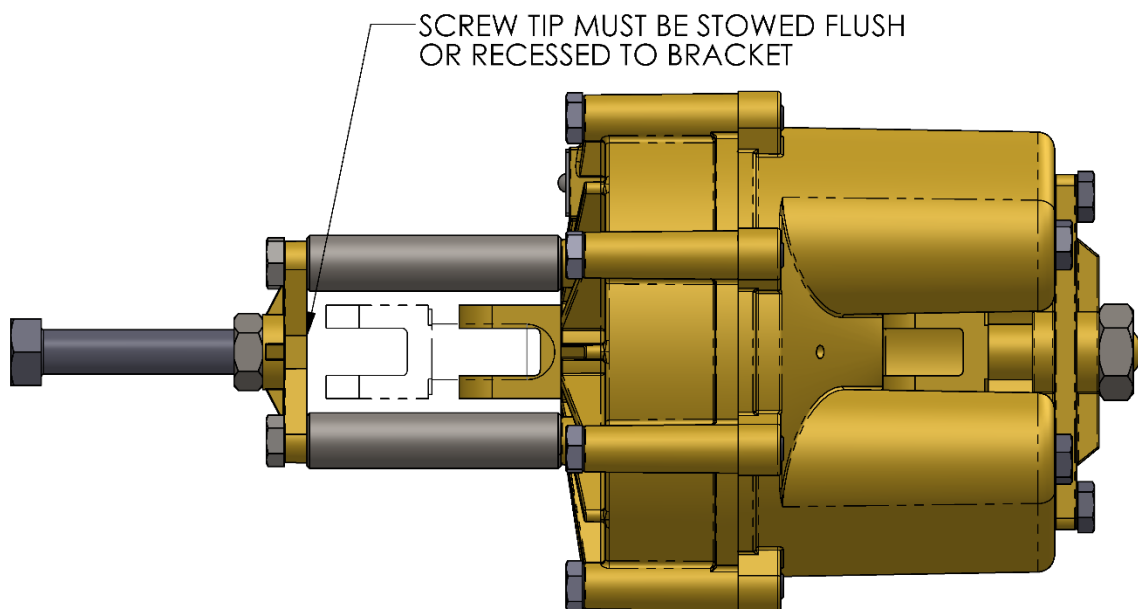

Figure 2: Release screw stow position
4. Ensure the brakes are un-caged before returning the brake to service. The release screw needs to be stowed in the fully retracted position with the jam nut tightened secure as shown in Figure 2.